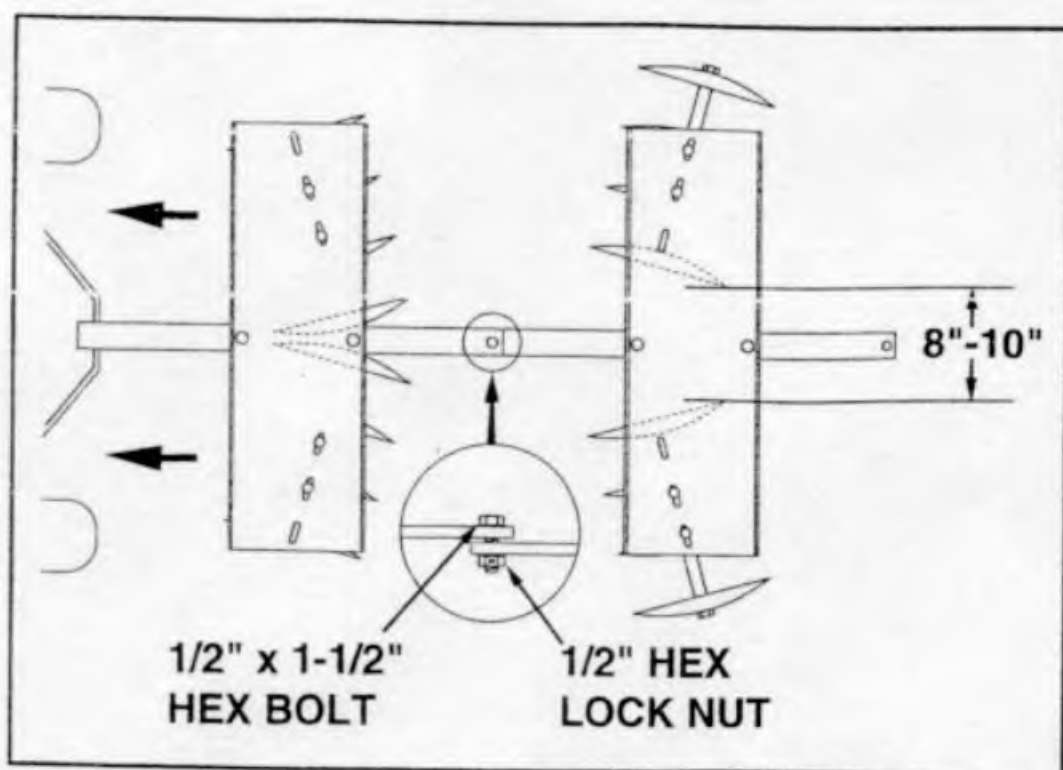

FIGURE 8
2. Attach the rear cultivator to the front cultivator by fastening the rear drawbars together using a 1/2" x 1-1/2" hex bolt and a 1/2" hex lock nut. Do not completely tighten the nut, allowing a slight amount of play between the rear drawbars. See figure 8.
5. To use two cultivators in tandem, the disc assemblies should be positioned as shown in figure 8, with the inside discs almost touching on the front cultivator and 8" to 10" apart on the rear cultivator. With this arrangement the front cultivator will throw the dirt to the outside and the rear cultivator will throw the dirt back to the inside.